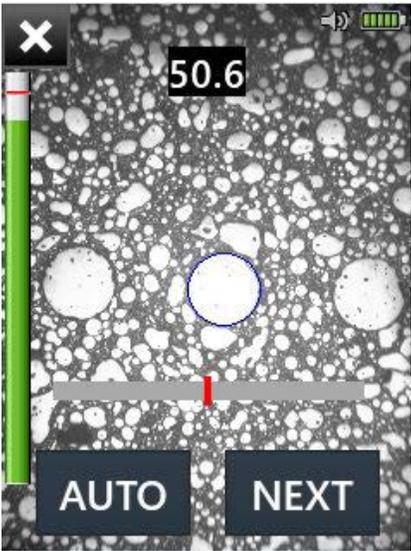

Figure 7
- Step 7. Press the AUTO button at the bottom-left of the screen; this will start the automatic lighting adjustment (see Figure 7).